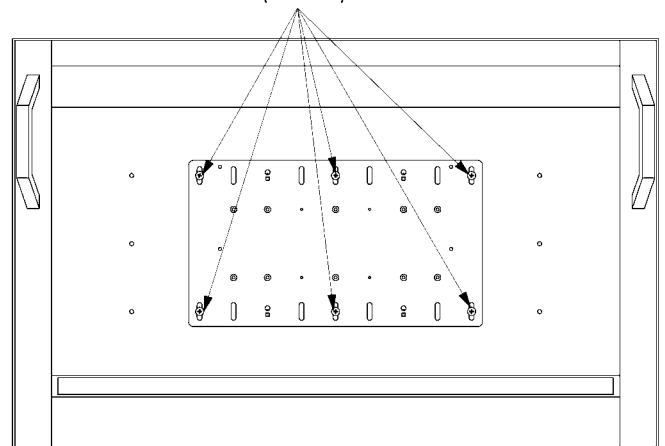

Figure 13. Display with 400mm x 200mm Hole Pattern
1. Select six Phillips head M6 screws (110) from Bag B and six spacers (140) from Bag C.
2. Attach the interface bracket (20) using the hole-pattern on the back of your display as shown in Figure 13.